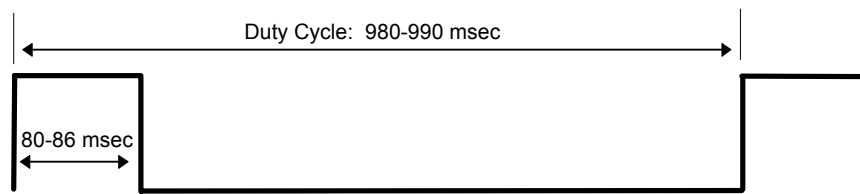

Figure 2-4 - Waveform on Pin 3 of J2
### On-Time Measurement: Reference Figure 2-4.
5. Bump the Motion Detector to indicate motion. When this is done, the scope should trigger on the rising edge of the turn-on pulse. The pulse duration should be between 80 and 86 msec. Adjust the trigger and horizontal position controls to fit the trace on the screen for easy measurement. If the scope has cursors, they may be helpful in making a quick and accurate measurement. Refer to Figure 2-4 and verify the given timing parameters.
### Off-Time Measurement: Reference Figure 2-4
7. Bump the Motion Detector to indicate motion. When this is done, the scope should trigger and display at least two (2) cycles of the pulse train. Use the screen cursors to measure the duty cycle time. The duty cycle should be between 980 and 990msec. Refer to Figure 2-4 and verify the given timing parameters.